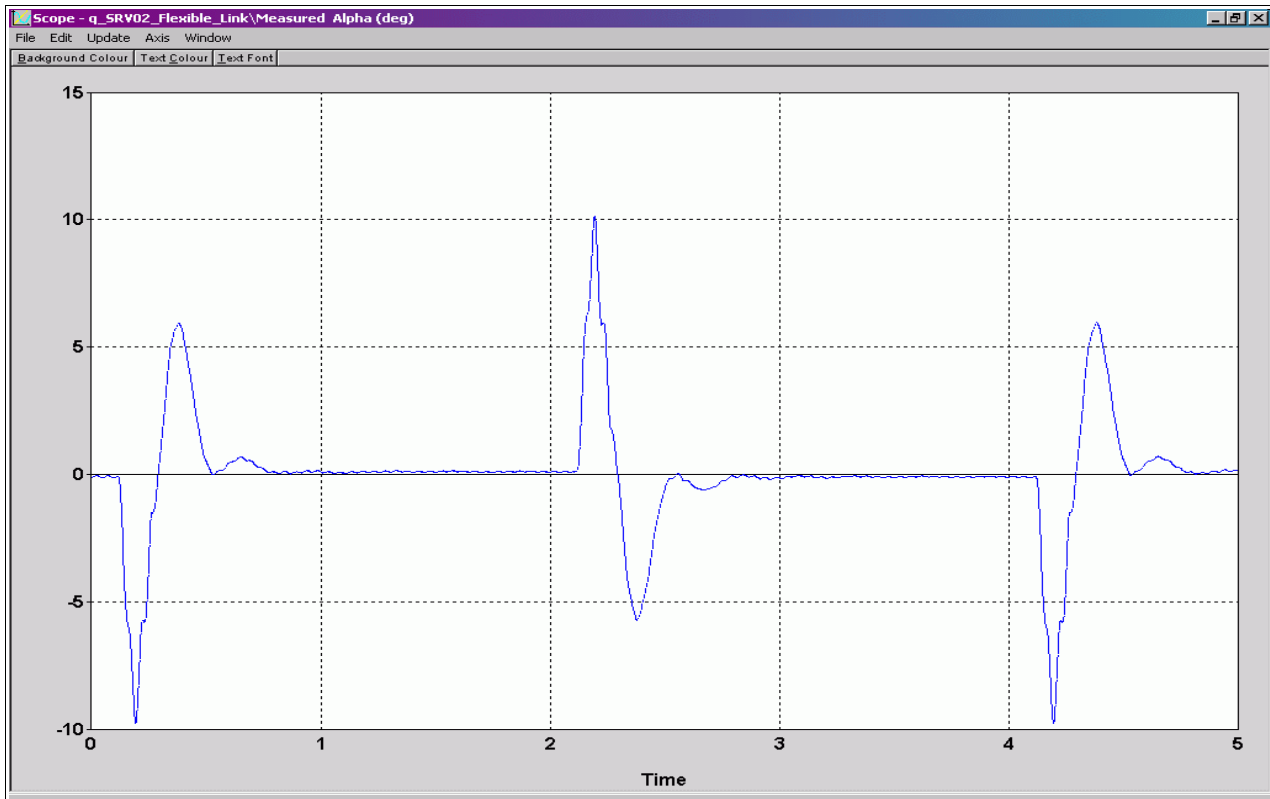
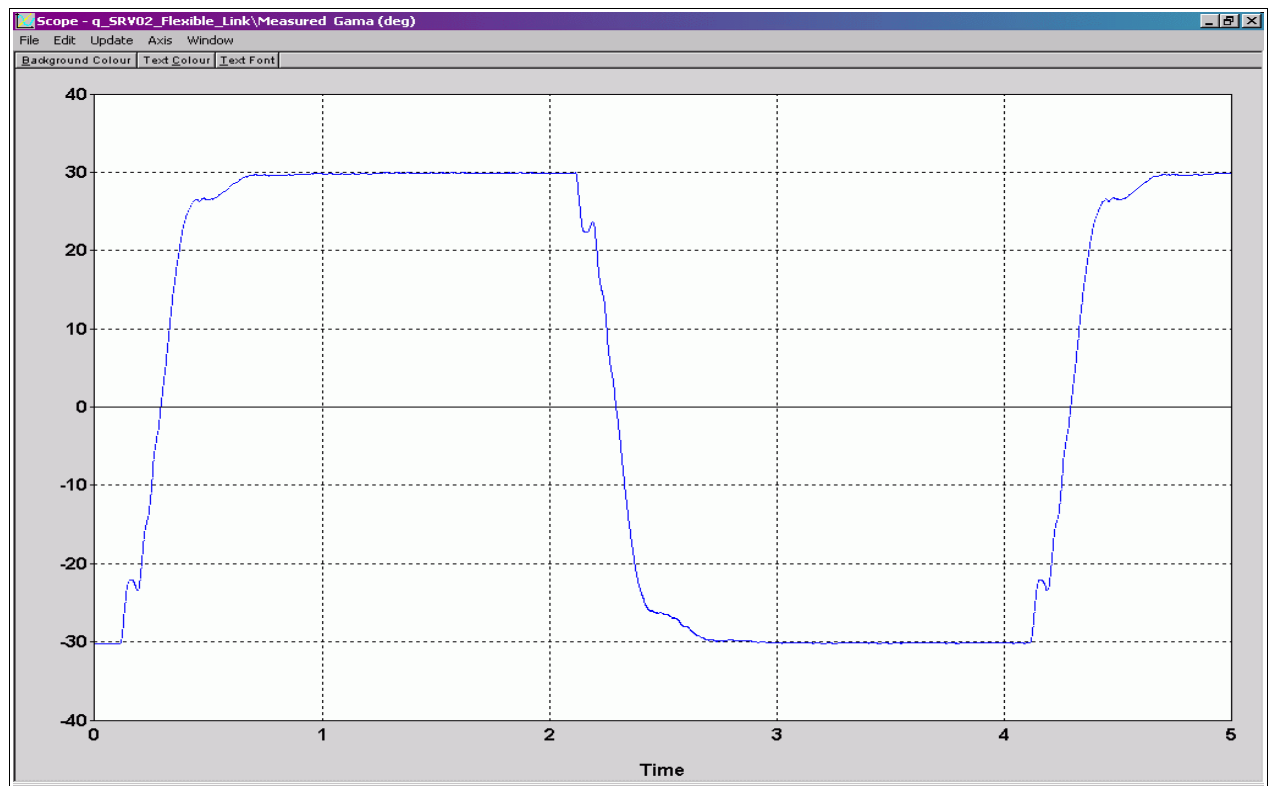

Figure 7 - Alpha Plot: Notice the Reduced Vibrations
Figure 8 - Gamma Plot: Notice the Fast Response without Overshoot
The following plots on the next page are of Alpha and Gamma with the Slide gains set to their optimum values in meeting the controller requirements. Once you have *tuned* the gains to their final values, your plots should look very similar to Figure 7 & Figure 8.
- iv. Once you have completely *tuned* the state gains, be sure to include your plots of gamma and alpha. These plots should look similar to Figures 7 & 8.